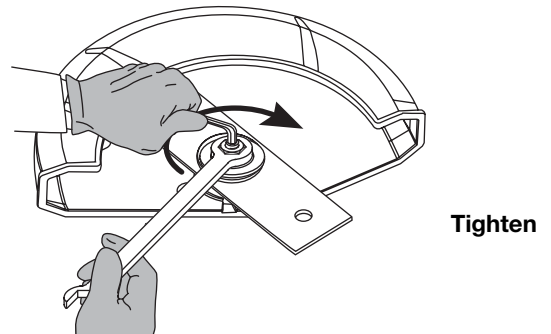

Fig. 17
5. While holding the Allen wrench in the spindle hole, tighten the nut by turning the wrench clockwise until tight (Fig. 17).